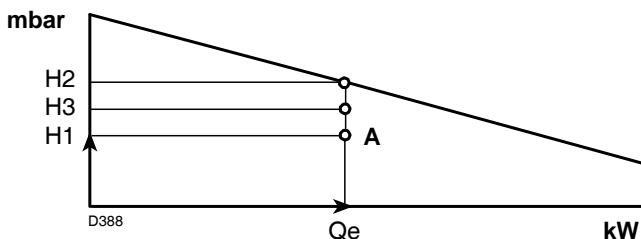

Fig. 39
point A that must remain within the firing rate (Fig. 39).
- 4 - Trace a vertical line from point A, Fig. 39, and find the maximum pressure H2 of the firing rate.
If H3 is greater than H1, as in Fig.39, the burner can produce the delivery requested.